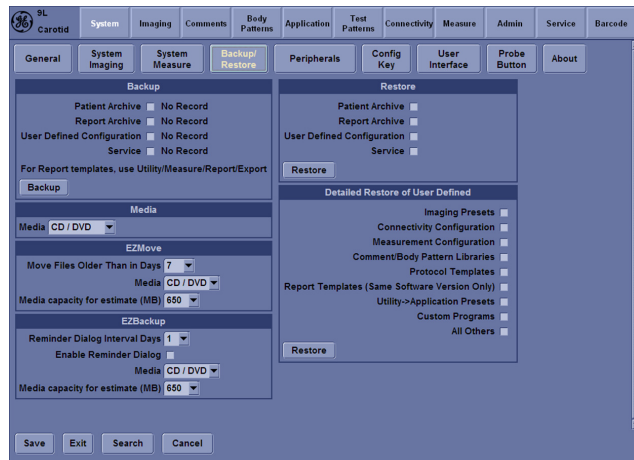

Figure 4-6. Backup Sheet
2. Access to Utility->System->Backup/Restore. The Restore sheet will be shown on the LCD display. See Figure 4-6 on page 4-14.